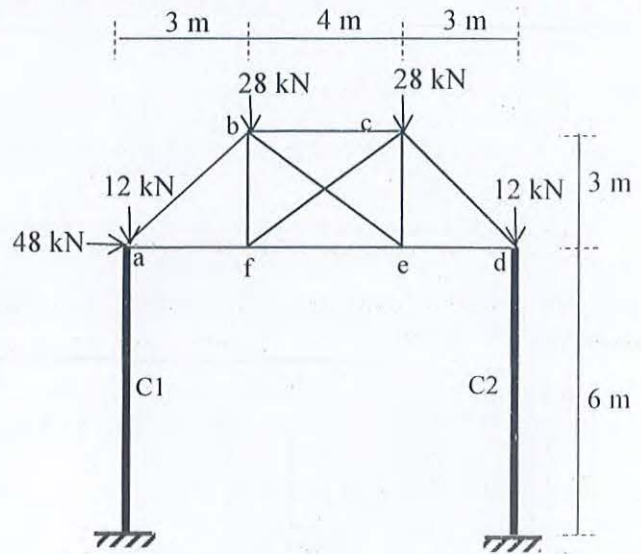

Figure 6: Truss of portal frame
- b. Analyze the **portal frame and truss** of the industry building as shown in **Figure 6** to obtain shear force and bending moment of columns (C1 and C2); member forces of **ab, af, bf, bc, be and cf** of the truss. Assume that the diagonal members of truss could sustain compression force. [10 Marks]